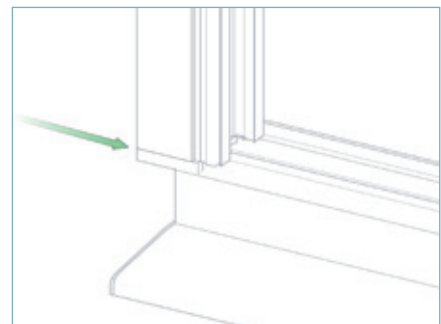

FIG 4B
▶ 4.5. Using a rubber mallet, gently tap the jambs in to the track as shown in FIG 4B.